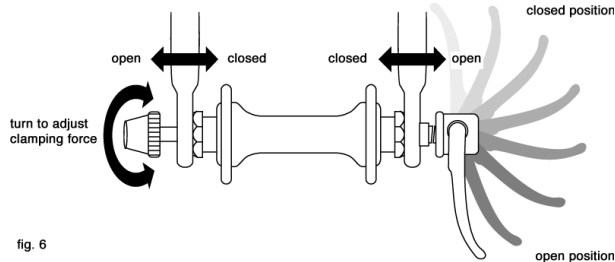

fig. 6
The wheel quick release uses a cam action to clamp the bike's wheel in place (see fig. 6). Because of its adjustable nature, it is critical that you understand how it works, how to use it properly, and how much force you
(3) Holding the quick-release lever in the OPEN position with your right hand, tighten the tension adjusting nut with your left hand until it is finger tight against the fork dropout (fig. 6).
(4) While pushing the wheel firmly to the top of the slots in the fork dropouts, and at the same time centering
the wheel rim in the fork, move the quick-release lever upwards and swing it into the CLOSED position (fig. 6 & 7a). The lever should now be parallel to the fork blade and curved toward the wheel. To apply enough clamping force, you should have to wrap your fingers around the fork blade for leverage, and the lever should leave a clear imprint in the palm of your hand.
(1) Make sure that the rear derailleur is still in its outermost, high gear, position
(2) Pull the derailleur body back with your right hand.
(3) Move the quick-release lever to the OPEN position (see fig. 6). The lever should be on the side of the wheel opposite the derailleur and freewheel sprockets.
(4) Put the chain on top of the smallest freewheel sprocket. Then, insert the wheel into the frame dropouts and pull it all the way in to the dropouts.
Some bikes are equipped with a quick-release seat post binder. The seatpost quick-release binder works exactly like the wheel quick-release (Section 4.A.1) While a quick release looks like a long bolt with a lever on one end and a nut on the other, the quick release uses a cam action to firmly clamp the seat post (see fig. 6).